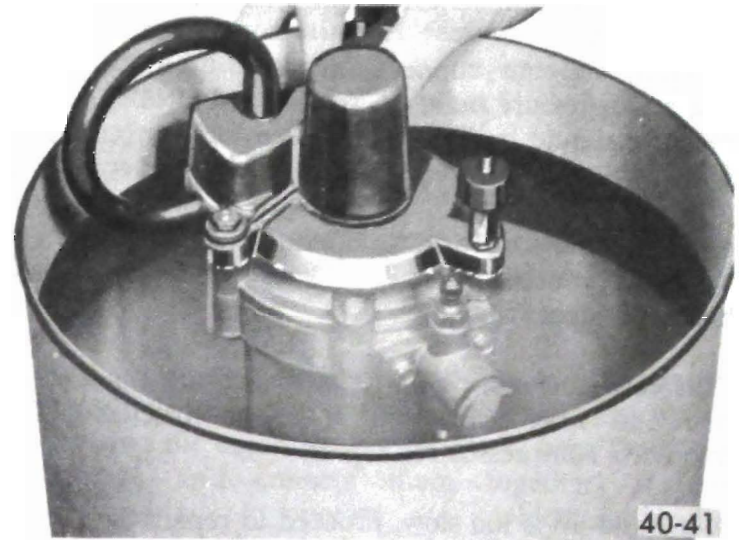

Figure 40-10 - Checking Compressor, Reservoir Tank and Regulator for Leaks
3. Route an 8" piece of rubber hose between vacuum and vent ports. See Figure 40-10.